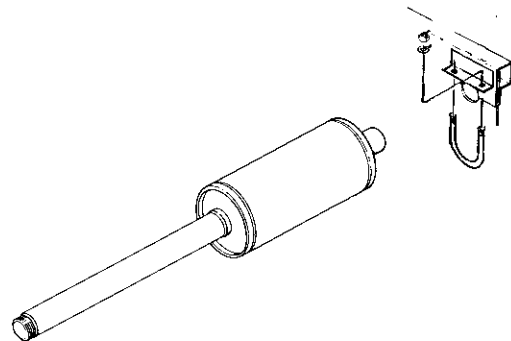

Figure IV-42 Exhaust System
A. EXHAUST PIPE AND MUFFLER (see fig. IV-42)